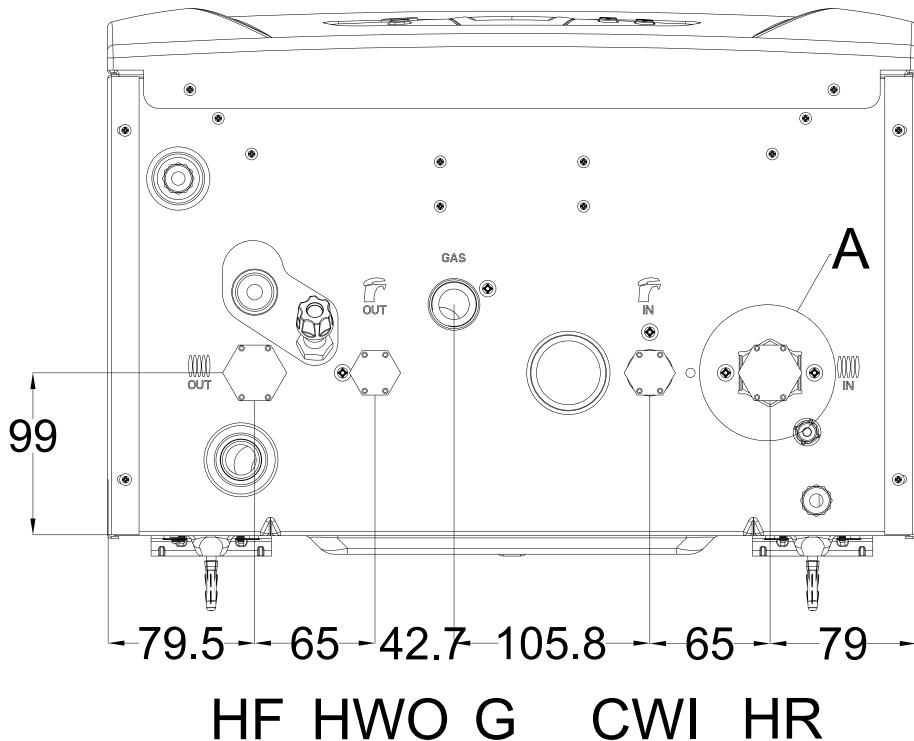

Figure 15. Water connections
- ⚠ The fitting placed under pump (Figure 15 – see Detail A) must be tightened with torque of maximum 18 Nm in case of rubber gasket use. This value is 30 Nm in case of cylinder head gasket use.